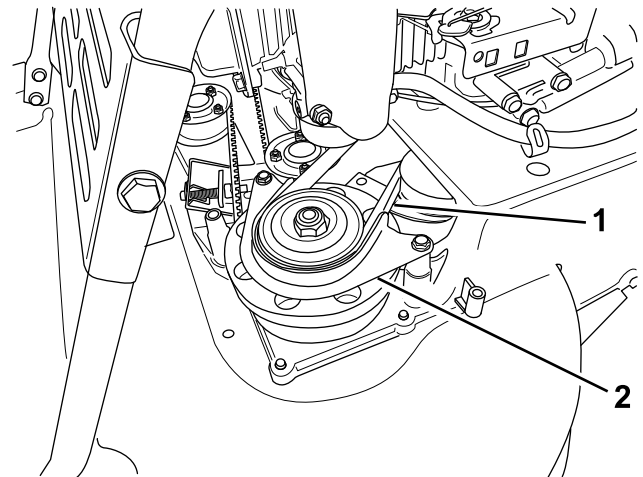

Figure 36
- Remove the BBC belt guard (Figure 36).